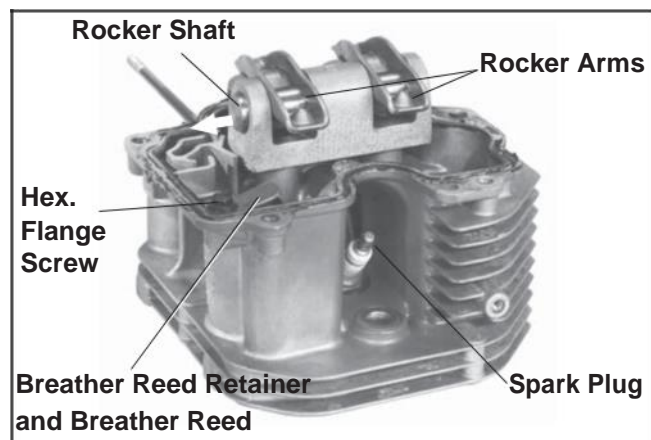

Figure 9-26. Removing Spark Plug, Breather, and Rocker Arms (Rocker Bridge Head).
Two basic styles of heads are used. The first style utilizes a rocker bridge configuration as shown in Figure 9-26. The second style contains separate rocker arm assemblies (with or without a guide plate), and either a non-adjustable or adjustable valve lash configuration. Variations of this style are shown in Figure 9-27. Components are unique to each head configuration. Follow the appropriate procedure based upon the configuration involved.
1. Remove the spark plug. See Figure 9-26.
3. **Rocker Bridge Heads** - Figure 9-26